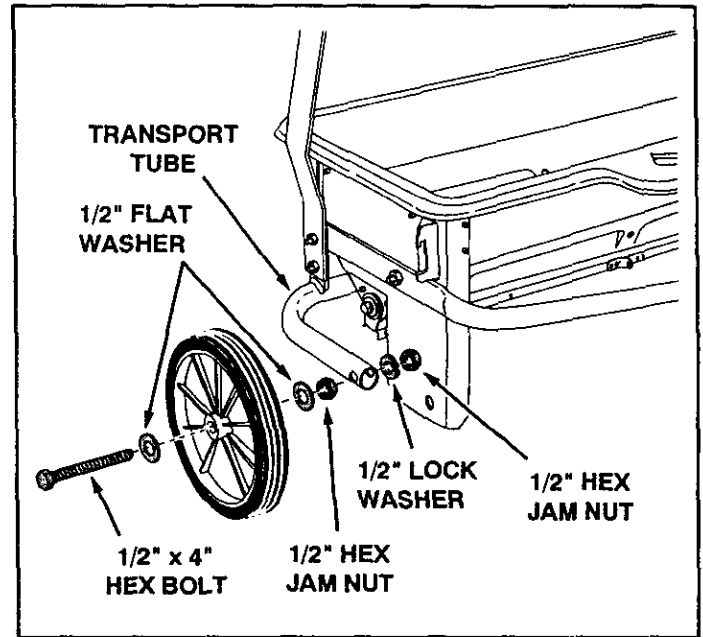

FIGURE 6
- Assemble a 1/2" flat washer, a wheel, another 1/2" flat washer and then a 1/2" jam nut onto a 1/2" x 4" hex bolt. Tighten the nut finger tight and then back off 1/4 to 1/2 turn. See figure 6.
- Assemble the bolt and wheel to the transport tube using a 1/2" lock washer and a second 1/2" jam nut. **Tighten** the nut but don't collapse the tube. See figure 6.
- Assemble a wheel to the other side. See figure 6.